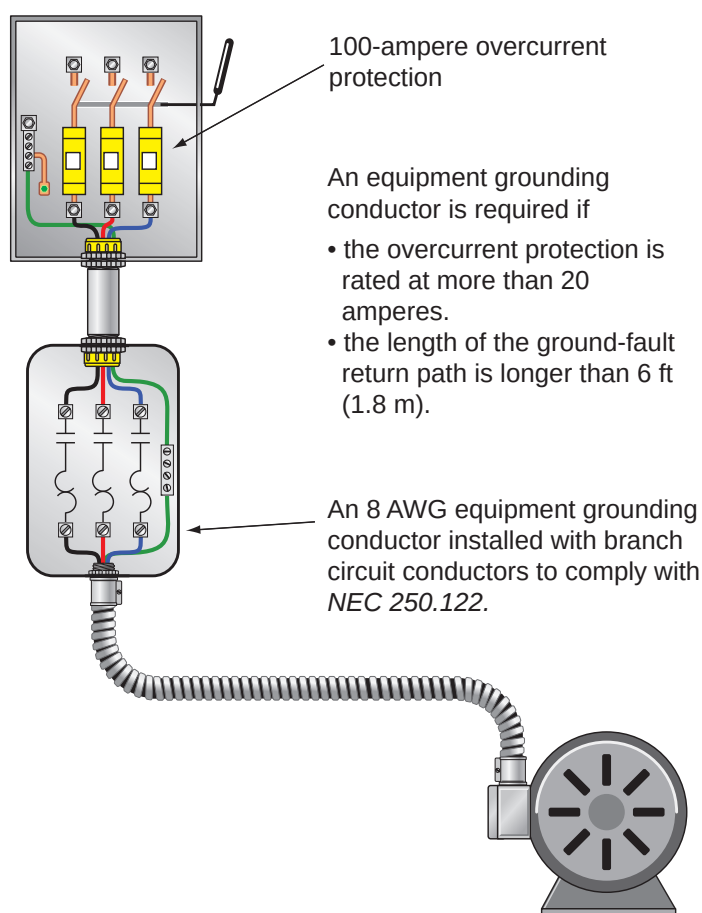

FIGURE 6-14 Equipment grounding conductor in flexible metal conduit. (Delmar/Cengage Learning)
- inside the conduit of unlimited length, Figure 6-14.
The use and installation of LFMC is described in *NEC Article 350*. LFMC has a tighter and flatter fit of its spiral metallic tape or armor as compared to FMC. LFMC has a thermoplastic outer jacket that is liquidtight and is commonly used as a flexible connection to central air-conditioning units located outdoors, Figure 6-14.
- the circuit is rated at 20 amperes or less, Figure 6-14.
- the overcurrent device is rated at 60 amperes or less, Figure 6-14.